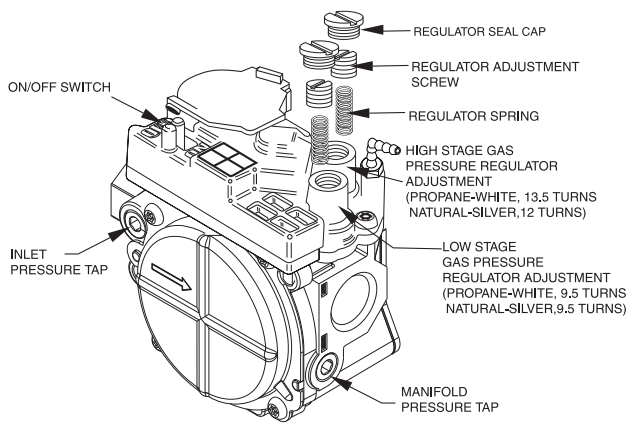

Fig. 24 – 2 Stage J and G Gas Valves
NOTE: For the 2-Stage furnaces with a Series J and Series G gas valve (see Fig. 24), they **MUST have both regulator springs replaced and the gas valve MUST be pre-adjusted.**
For J and G valves, see Fig. 24.
- Attach manometer to manifold pressure tap on gas valve. (see Fig. 24.)